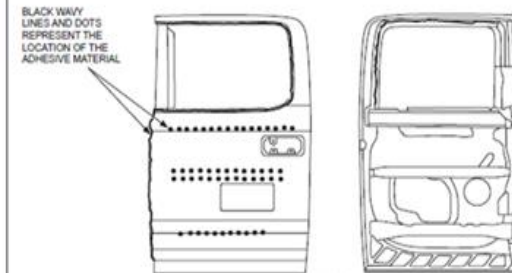

FIGURE 1
- Apply metal bonding adhesive to the following areas: service replacement hem flange, flutter beam-to-outer panel, and outer belt reinforcement-to-outer panel. (Refer to figure 1).
- NOTE: The location of SPR and adhesive shown below are based on the original production drawings and should only be used as a guideline. (Refer to Figure 1).
- Insert TOOL 501-078-1 (RH) or TOOL required for consistent tool operation).